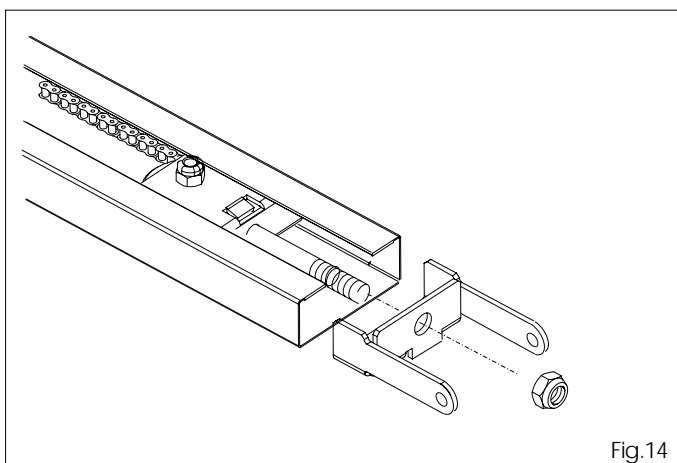

Fig.14
5.10 Fit the flange into the sliding guide and lock with the nut (fig.14).